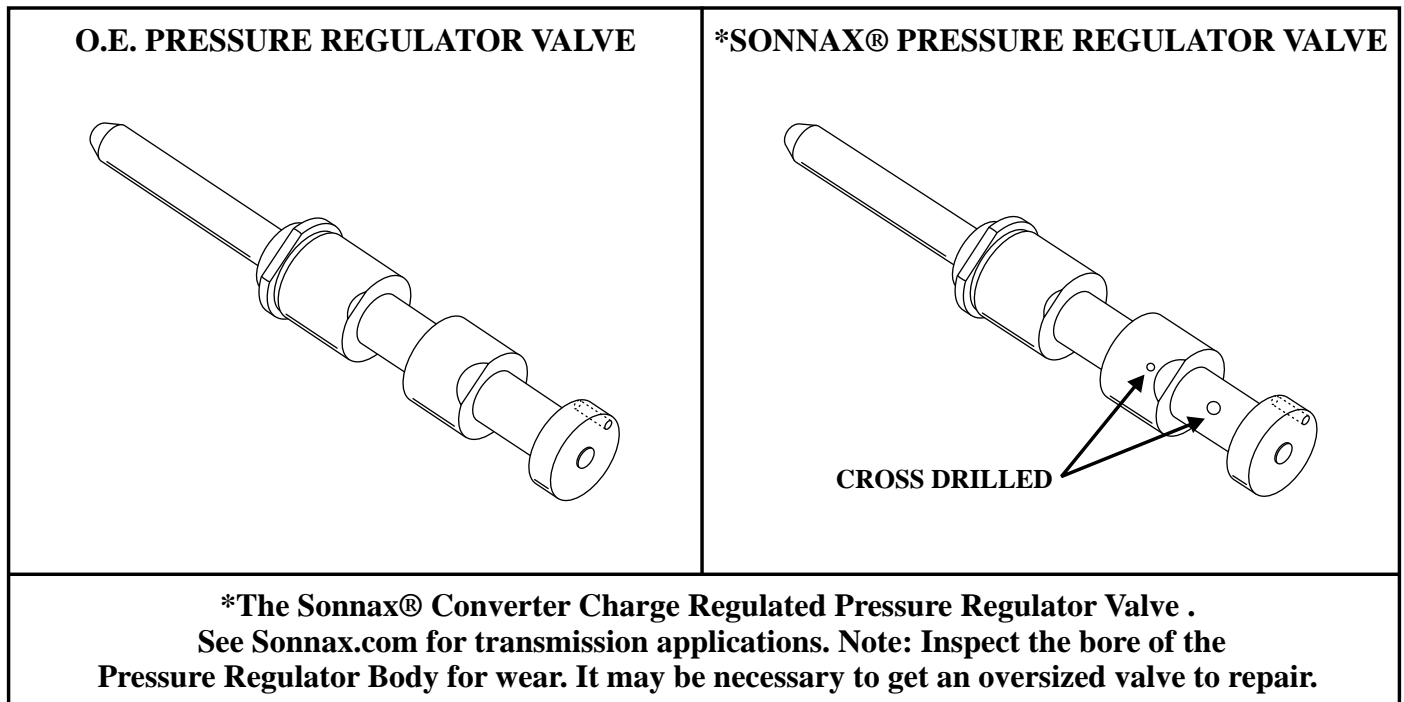

Figure 3
1. The use of the Sonnax® Converter Charge Regulated Pressure Regulator Valve, Figure 3.